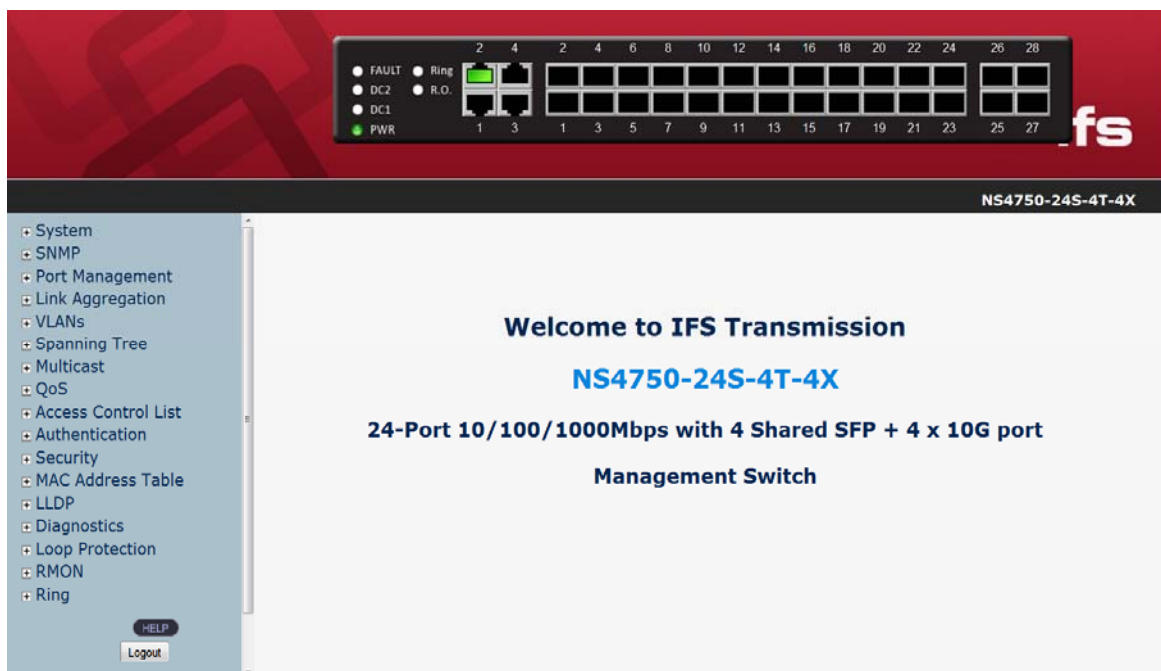

Figure 7-3: Web Main Screen of the Managed Switch
3. After entering the password, the main screen appears as shown in Figure 7-3.